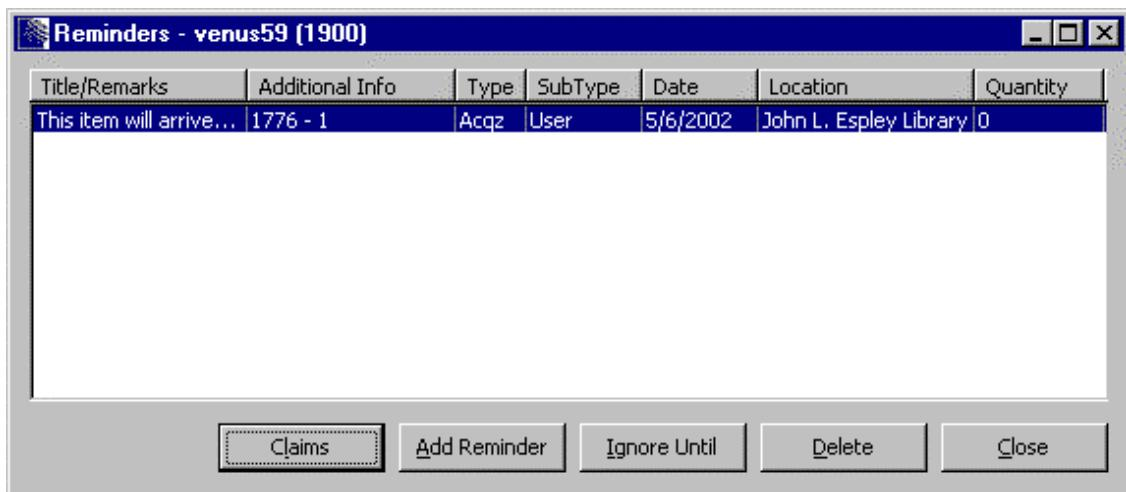

Figure 11-4. Claims Window
1. Highlight the line item for which you want to view claims (*Figure 11-4*).
1. On the Reminders window (*Figure 11-4*), highlight the desired reminder.